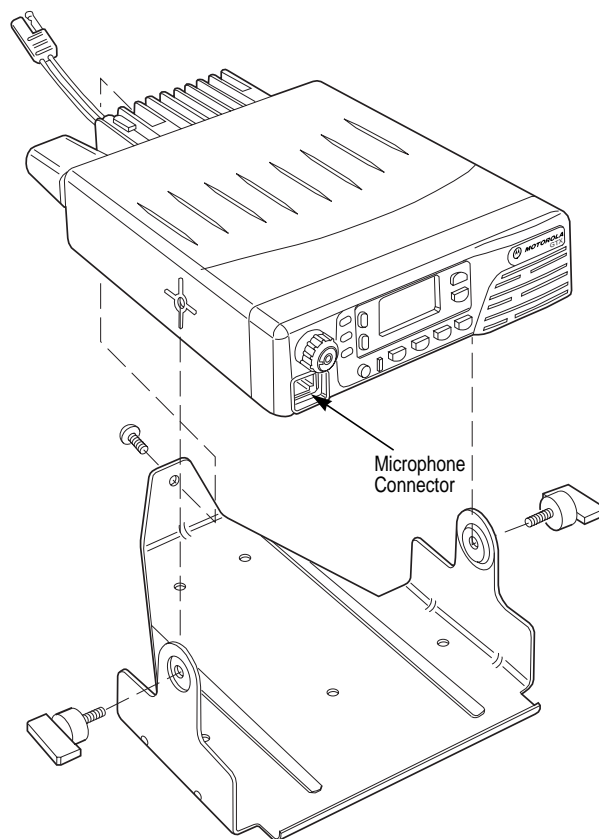

Figure 2-3. 35 W & 30 W Radio Being Placed onto a Trunnion
9. Plug the microphone cord into the control head connector. Refer to Figure 2-3. Your microphone has a telephone type connector at the end of its cord. Connect and disconnect your radio microphone cord in the same manner you connect and disconnect your telephone handset cord.